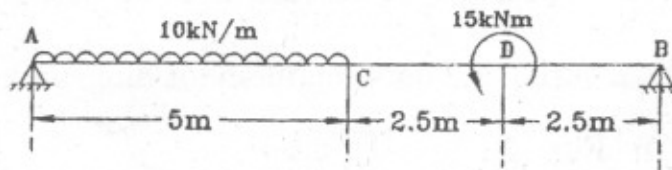

Fig. 4
- (b) Draw shear force and bending moment diagram for the beam shown in Fig. 4. [8]